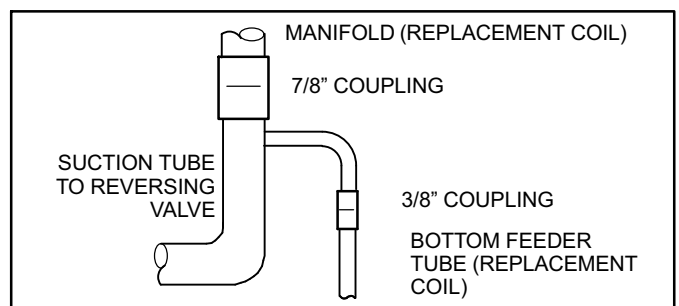

Figure 4. Replacement Line & Coupling
13. Align the manifold and feeder tube on the replacement coil with those in the unit. Install the provided couplings between the two tubes. Sweat the couplings into place. See figure 4.